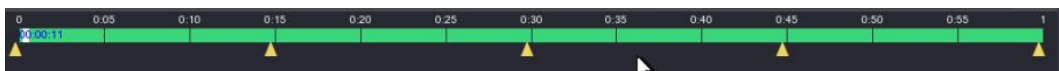

Figure 5-107
Step 5 Start playing back splices. See Figure 5-107.